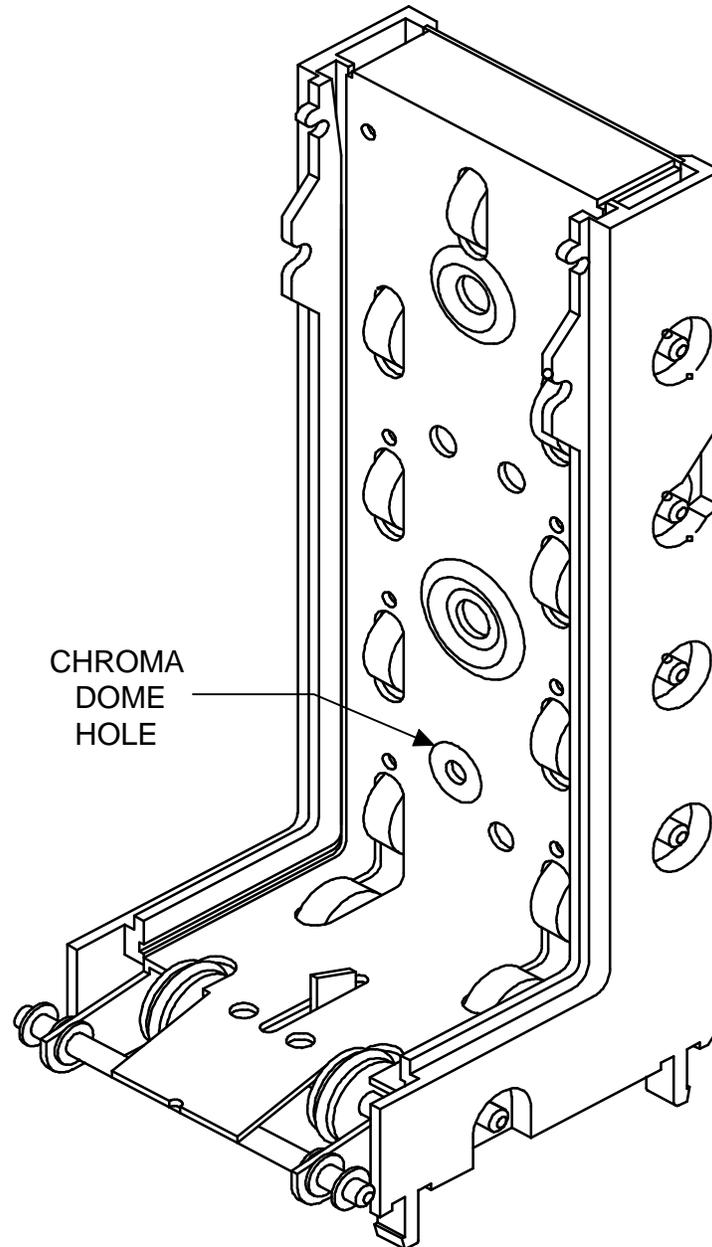

Figure 2
4. Inspect the upper chroma dome (hole in the upper track) for lint and dust build-up. The chroma dome can be cleaned by using pressurized air. (i.e., air hose, canned air or brush supplied in the kit. See Figure 2 below.